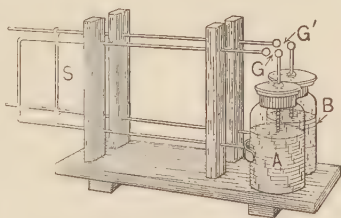

FIG. 319. — Electrical resonance.
409. Electrical resonance. We can demonstrate electrical resonance by means of two similar condensers, one of which has a varying circuit. One condenser, such as a Leyden jar, has joined to the outside coating a metal conductor whose other end is separated by a small gap from the knob G which joins the inside coating. This we shall call the *wave-producing* equipment; A in Fig. 319. The Leyden jar, A , may be given an electric charge by joining the two surfaces to the two terminals of a static machine or to the secondary coil of an induction coil. Another condenser of the same capacity (B) is fitted with a metal conductor and has a spark gap at the knob (G'). This we shall call the *receiving* equipment; B in Fig. 319. The metal circuit is longer than that